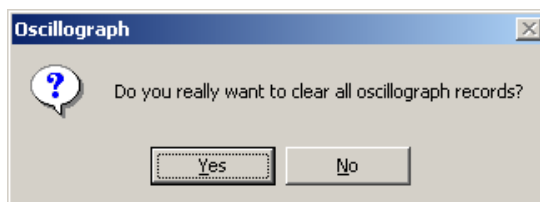

Figure 2-16 Clear Oscilloscope Records Confirmation Screen
1. Select **System/Oscilloscope/Clear**. IPScom will display the Clear Oscilloscope Records confirmation screen (Figure 2-16).